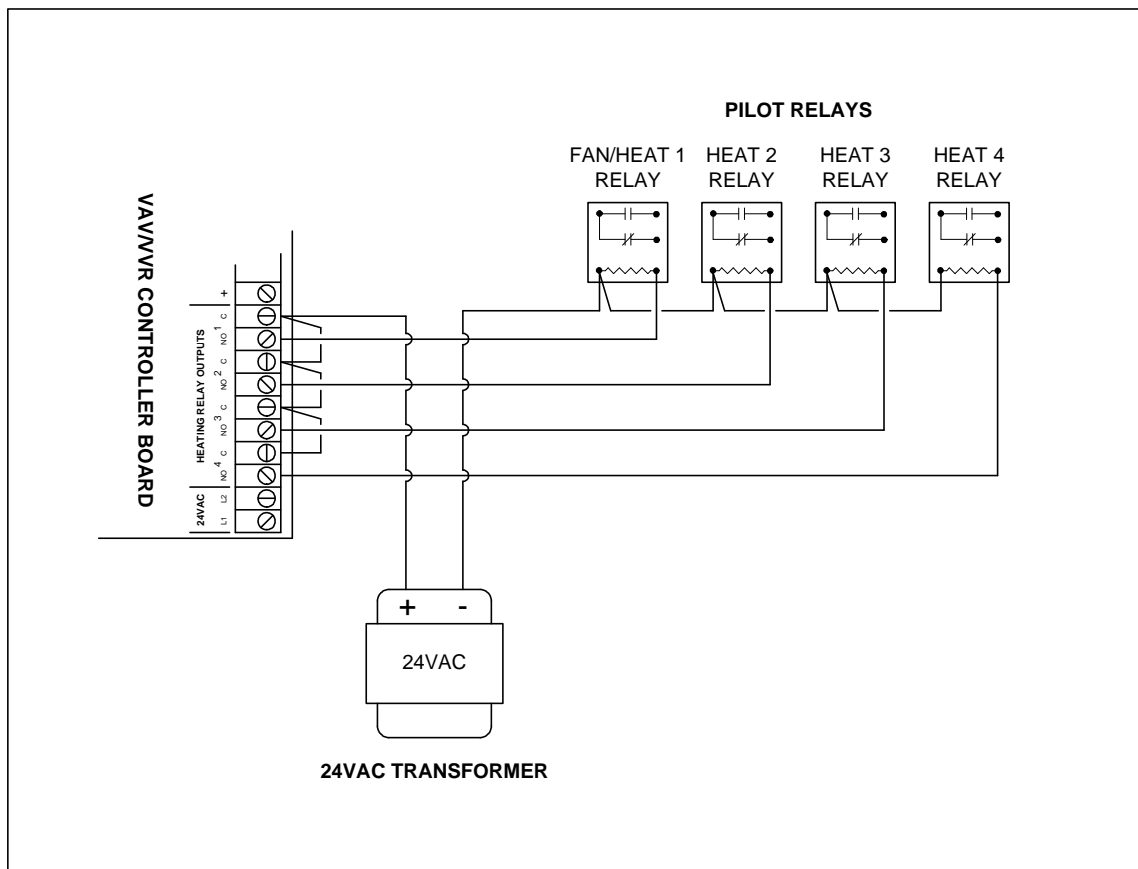

Figure 13: Typical VAV Pilot Relay Output Wiring
The VAV / VVR provides four (4) SPST relay outputs for control of box fans and/or electric heat strips. The outputs provide a normally open contact, and will interface with most box manufacturer control sequences. **Figure 13** shows output wiring utilizing external pilot relays.